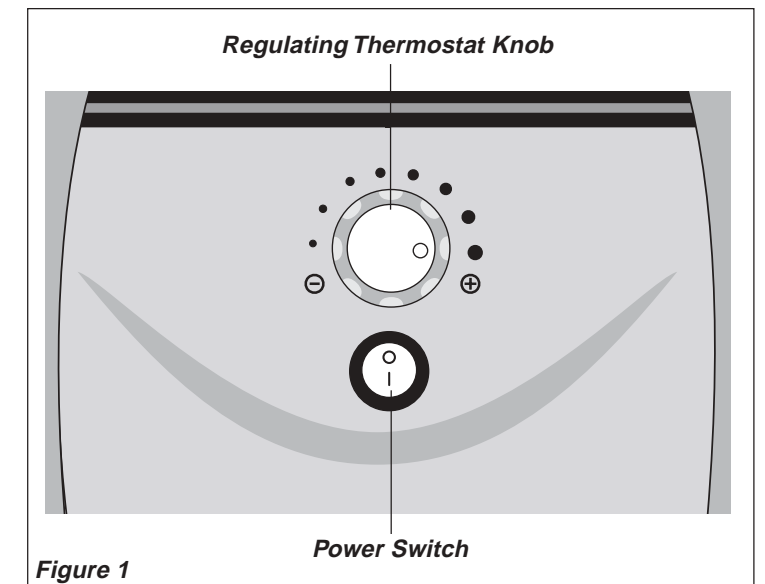

Figure 1
3. Make certain the **Power Switch** is in the OFF position by pressing (o). (*See Figure 1*)
5. To Turn the Heater ON press the **Power Switch** to (I). The light switch will illuminate.
3. It is normal for the Heater to cycle between high and low wattage as it maintains the room temperature. **NOTE: The fan speed does not change between high and low wattage.** When the Power Switch is ON (illuminated), the Heater is constantly energized in delivering heated air. To turn the Heater OFF press the (o) on the Power Switch. (*Figure 1*)